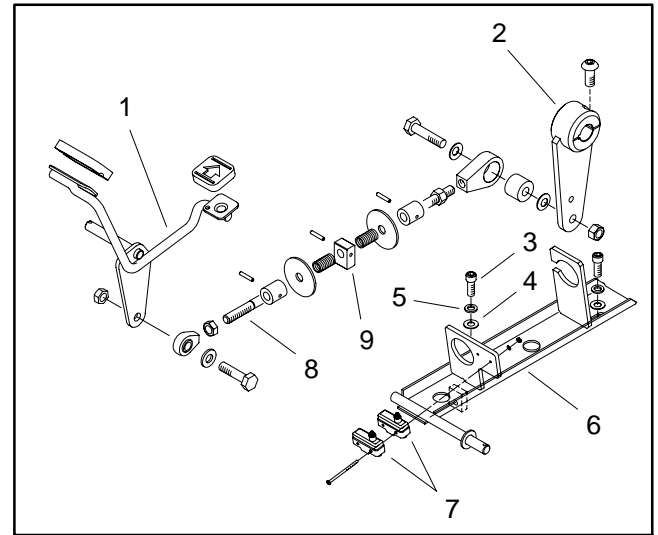
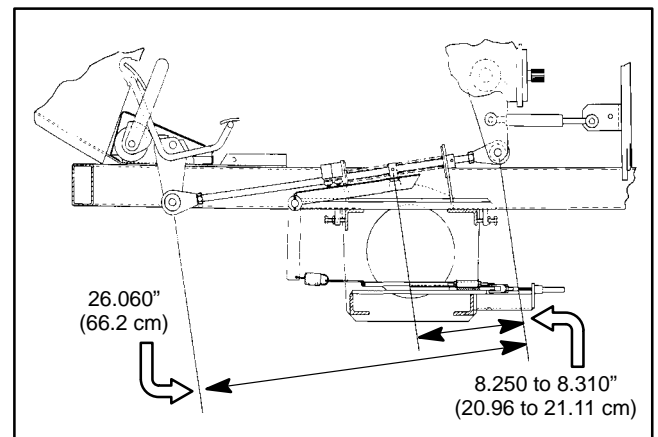

Figure 62
Figure 63
2. Assemble traction rod to machine using Figure 62 as a guide. Make sure that rod block is positioned downward to engage traction lock lever. Overall traction rod length (center to center) should be 26.060" (66.2 cm). The distance between pump lever clevis center and rod block should be from 8.250" to 8.310" (20.96 to 21.11 cm) (Fig. 63).
8. If machine creeps when in neutral, loosen two (2) socket head screws that secure neutral lock bracket to machine (Fig. 62). Slide neutral lock bracket until machine does not move when in neutral. Tighten socket head screws.